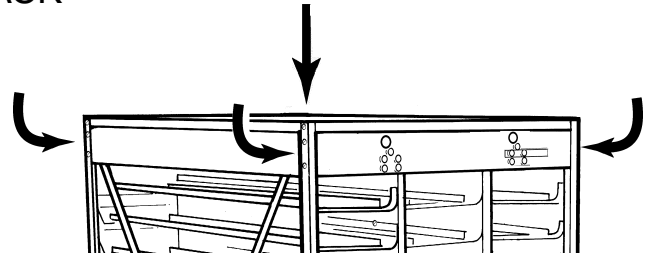

Figure 24
**Step 17:** Tighten the side frames to the top frame in all four (4) corners as in Figure 24.